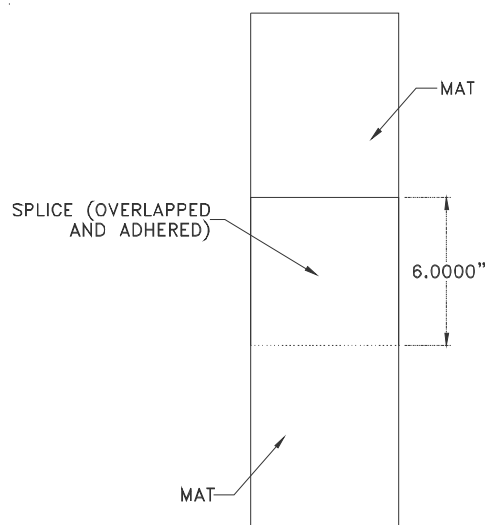
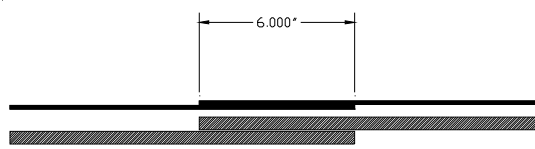

Figure 5
Figure 6
STEP 1. Select the mating sections of the bottom package of the MetaMat. Overlap each layer (fabric, blanket and intumescent) of the mating sections of the MetaMat fire barrier 6" (Figure 5 and Figure 6).
STEP 3. Select the mating sections of the top package of the MetaMat. Overlap each layer (foil, blanket and intumescent) of the mating sections of the MetaMat fire barrier 6" (Figure 5 and Figure 6).